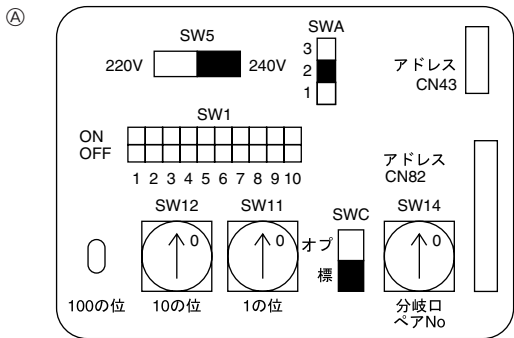

Fig. 6-4
- *1 Put the transmission cable earth via the outdoor unit's earth terminal ③ to the ground.
6.3. Setting addresses (Fig. 6-4)